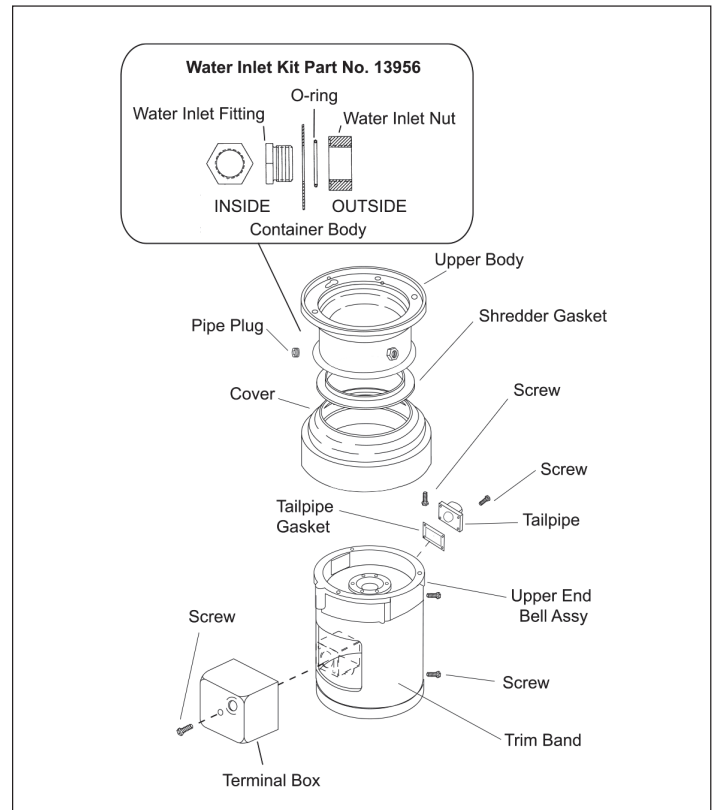

Figure 10. Cover and Upper Body Assembly
1. Using a wrench, remove water inlet from upper body (Figure 10).
2. Remove screws securing tailpipe and gasket from upper end bell assembly (Figure 10).
3. Remove terminal box and trim band (Figure 10).
4. Remove screws securing body and cover assembly to upper end bell assembly (Figure 10).
12. Re-install tailpipe gasket and tailpipe using screws (Figure 10).